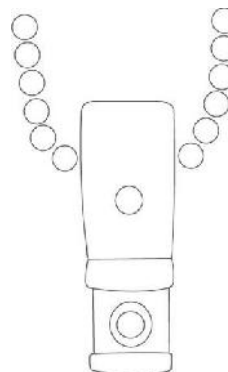

Figure 2
- Carefully align the idle mechanism with the 'gate' of the idle bracket (part C) (Figure 2). Gently push the blind upwards into the idle bracket until it clicks into place
2. Install the tension device onto the reveal/frame, making sure that the loop chain hangs with minimal tension (Figure 2).